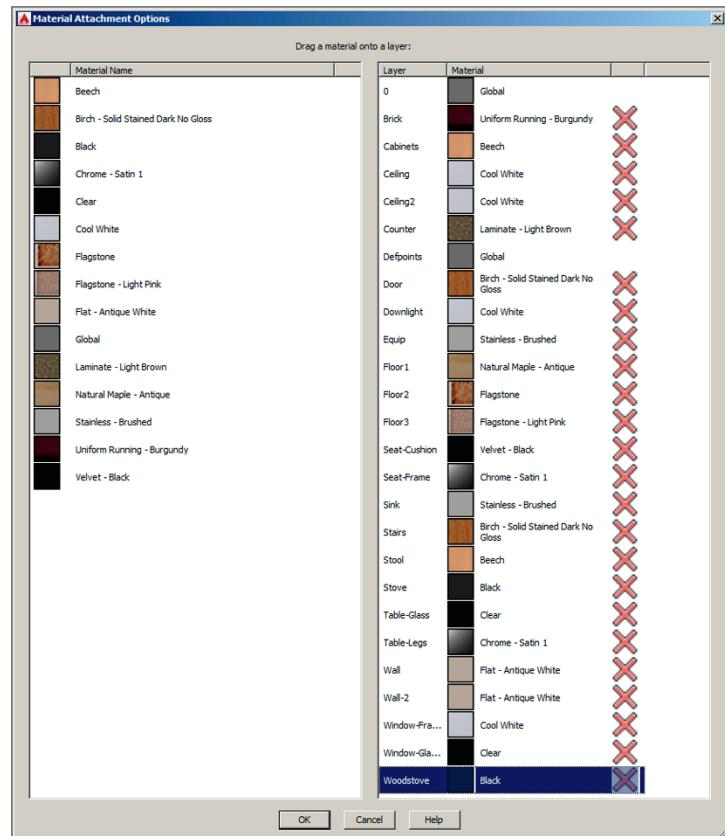

FIGURE 18.4 Assigning materials to layers by dragging from the left pane to the right pane in the Material Attachment Options dialog box
5. Select the ribbon's Visualize tab. Expand the Materials panel, and select the Attach By Layer tool. Click the Layer header to sort the list of layers in reverse alphabetical order. Click the Layer header again to sort in alphabetical order. Drag materials from the left side, and drop them on the right side according to Table 18.2. Figure 18.4 shows the dialog box with all the necessary materials assigned to specific layers. Click OK to close the Material Attachment Options dialog box.